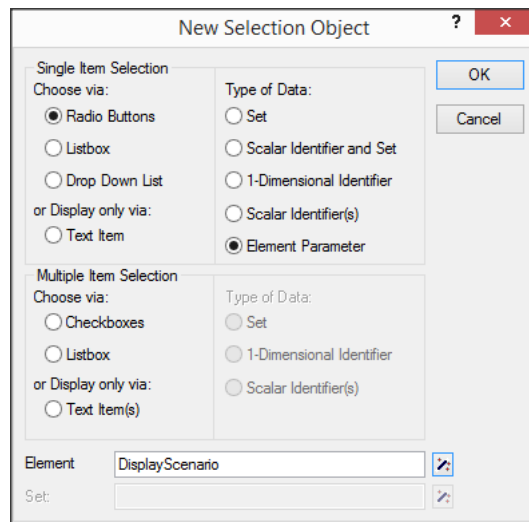

Figure 11.24: The New Selection Object dialog box
- ▶ press the **Wizard** button  next to the 'Element' field (see Figure 11.24),